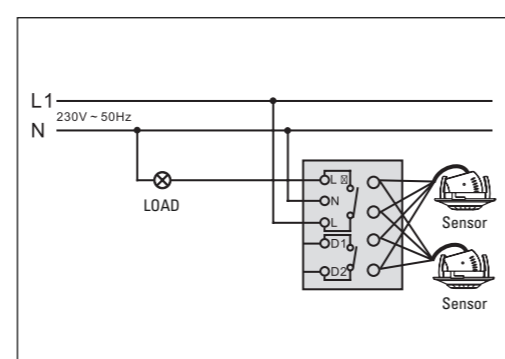

Fig. 9
3. **McGuard** combined with a change over switch (Fig. 9)